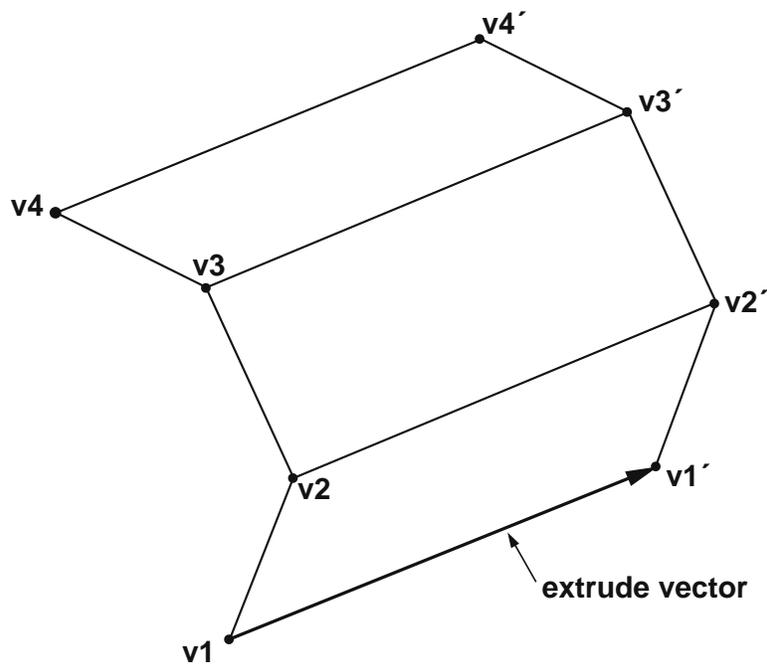
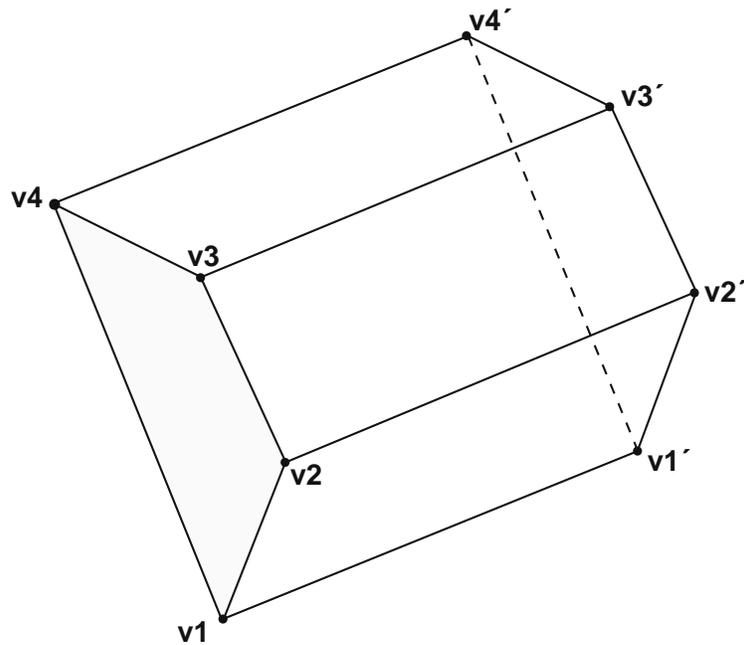
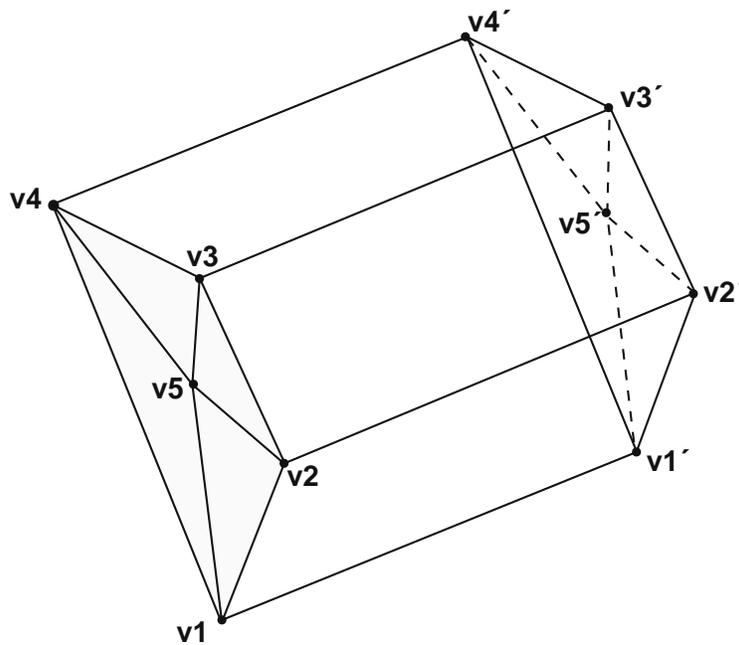

Figure 1.6 Extruded polygon surface
Figure 1.7 *Extruded polygon surface with two ends closed (v1, v4, v1' and v4' form a surface)*
Figure 1.8 *Extruded polygon surface with two ends closed and capped (v5 and v5' are vertices at the centroids of the end surfaces)*
- An **xpolygon** surface is generated in two steps. First, a continuous edge is created by connecting vertices. At least three vertices are required. Then the surface is created by extruding lines from each vertex in the direction (with a magnitude) defined by the **extrude** vector (see Figure 1.6). For example, the vertices $v1'$, $v2'$, $v3'$ and $v4'$ are created automatically, in Figure 1.6, by adding the extrude vector to vertices $v1$, $v2$, $v3$ and $v4$. If the **close** keyword is given, vertices $v1$ and $v4$ and $v1'$ and $v4'$ will be connected. This will create a closed polygon surface (see Figure 1.7). If the **cap** keyword is specified, a vertex will be created at the centroid of each end, and surfaces will be created. If **close** and **cap** are both specified, a closed volume will be created (see Figure 1.8).